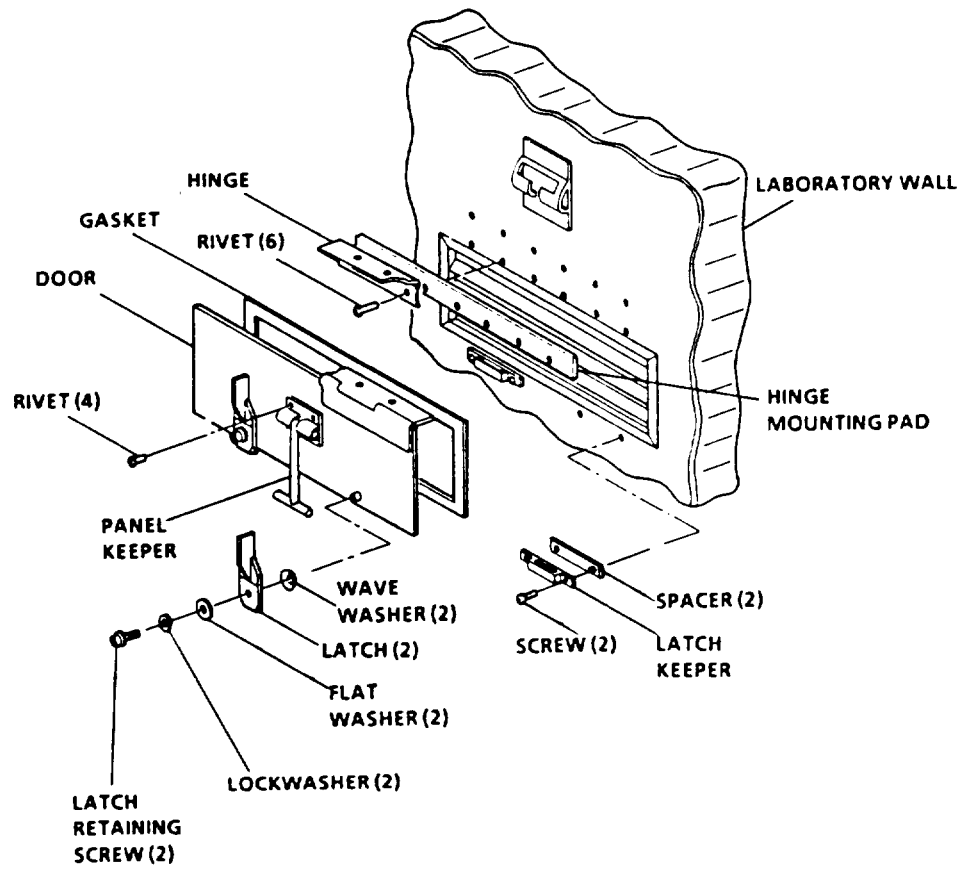

Figure 4-4. Blower Exhaust Door
1. Install door latch and wave washer. See figure 4-4.
2. Install latch keeper. See figure 4-4.
3. Install panel keeper. See figure 4-4.
4. Install door weatherstripping. See figure 4-4.
5. Install blower exhaust door. See figure 4-4.